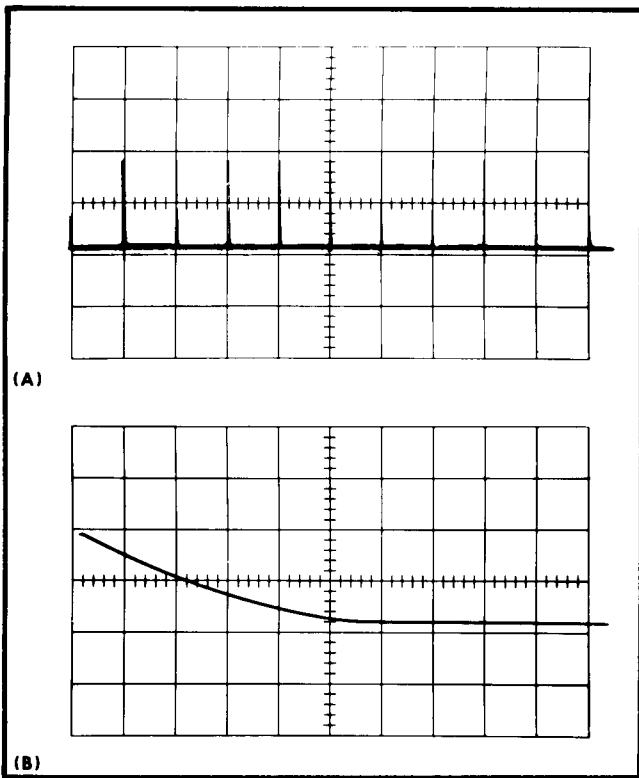

Fig. 5-3. (A) Intensified portion positioned to the 1st time marker. (B) Start of time marker positioned at the left graticule line.
e. Adjust the display intensity level with the INTENSITY control so the intensified portion of the display is visible, then position the intensified portion with the DELAY TIME MULTIPLIER 1-10 dial to the first time mark (see Fig. 5-3).